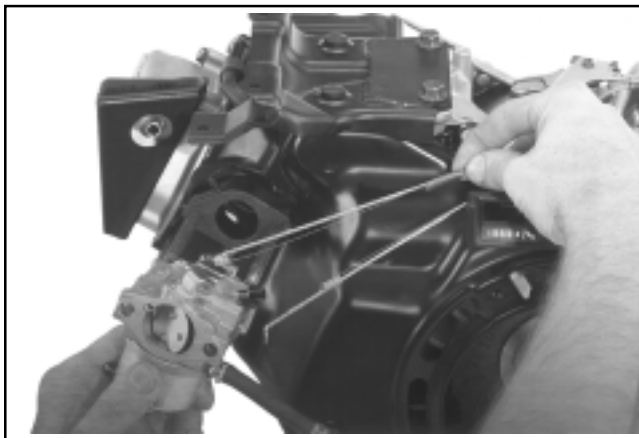

**Figure 11-100. Carburetor Spacer and Gaskets.**
1. Install a new carburetor spacer gasket onto the carburetor studs, followed by the carburetor spacer and another spacer gasket. See Figure 11-100.